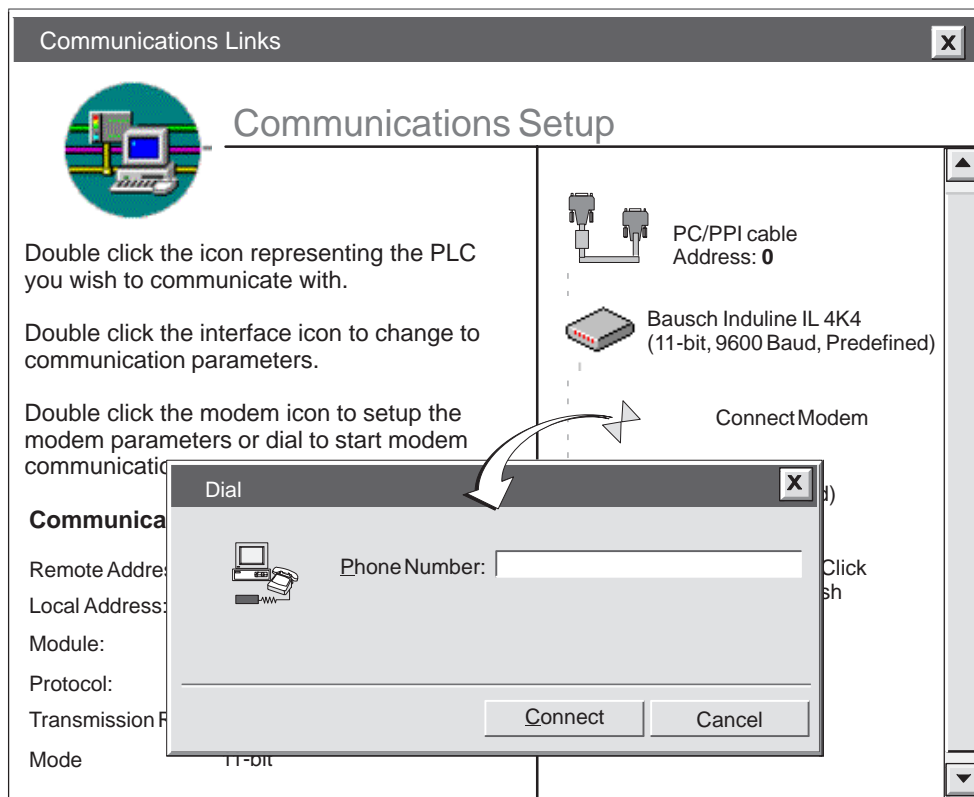

Figure 7-16 Connecting the Modems
1. To connect your modem, double-click on the Connect Modem icon in the Communications Setup dialog box. The Dial dialog box appears. See Figure 7-16.